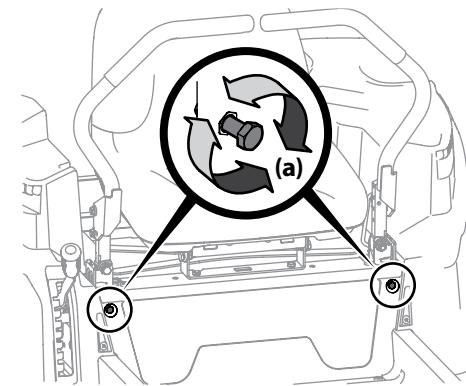

Figure 4-9
- Locate the drive control lever stop adjustment bolts (a) on the front of the seat frame. See Figure 4-9.